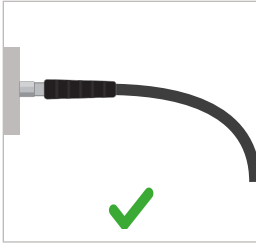
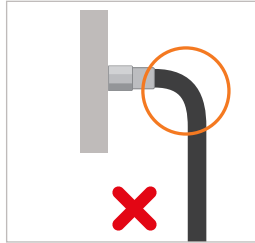

Figure 1
Figure 2
- ▶ Make sure that the bending of the hose starts only after a length of 19 mm to avoid kinking and tensile stresses (*Figure 1* and *Figure 2*).